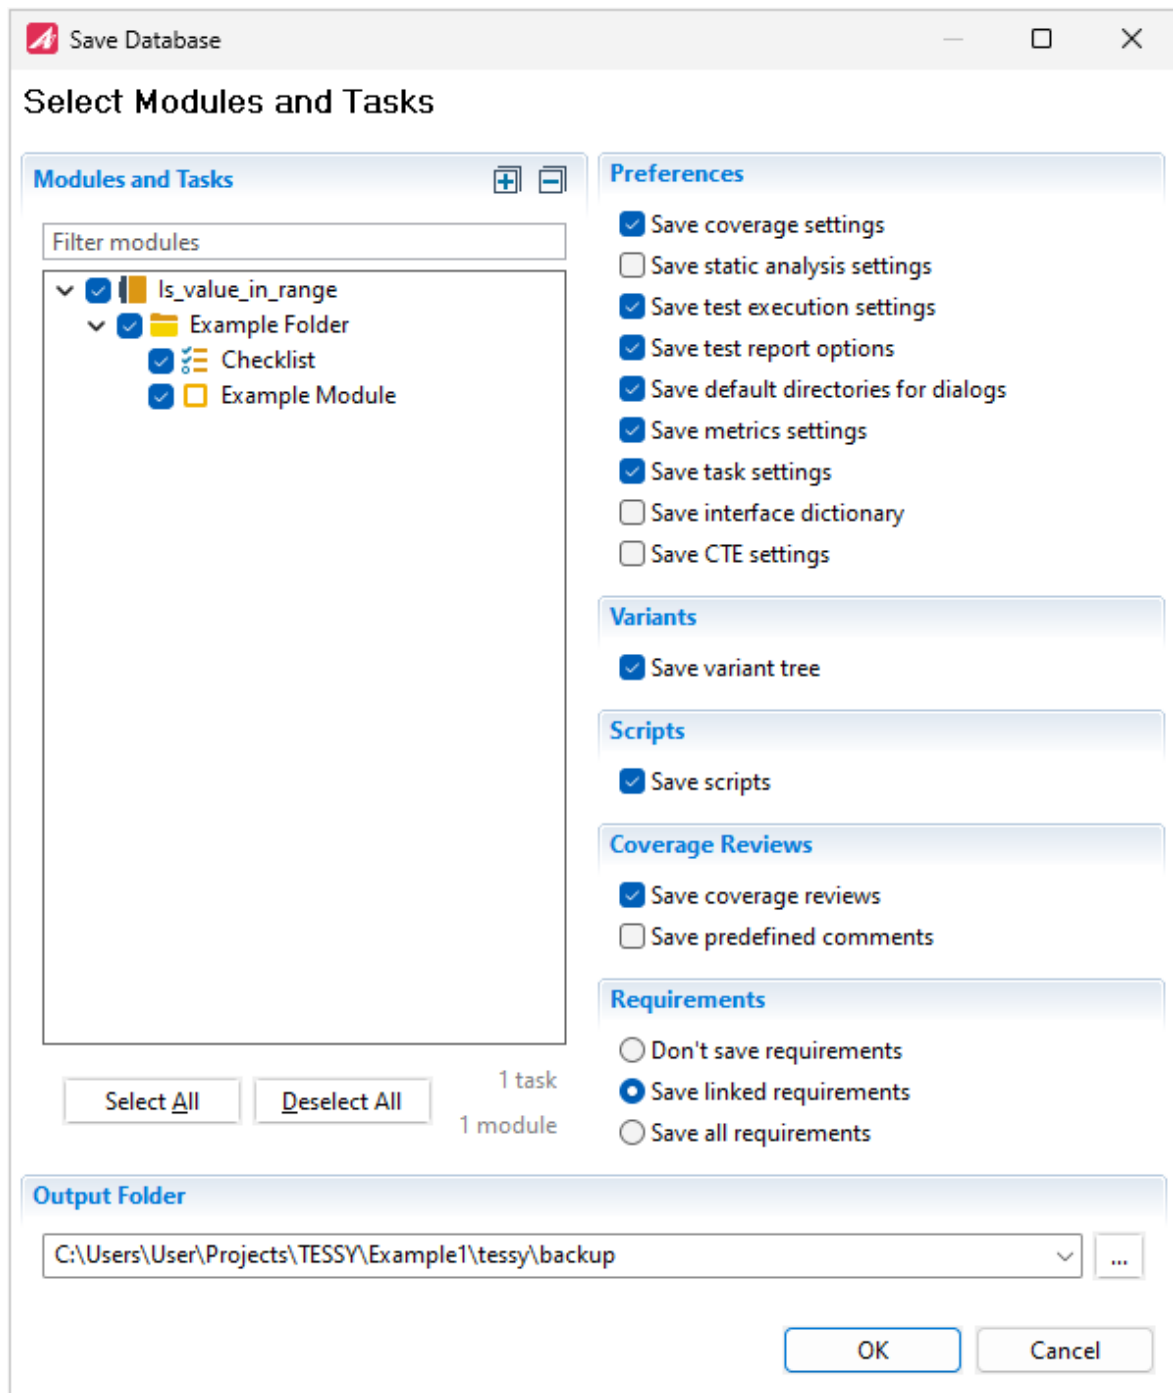
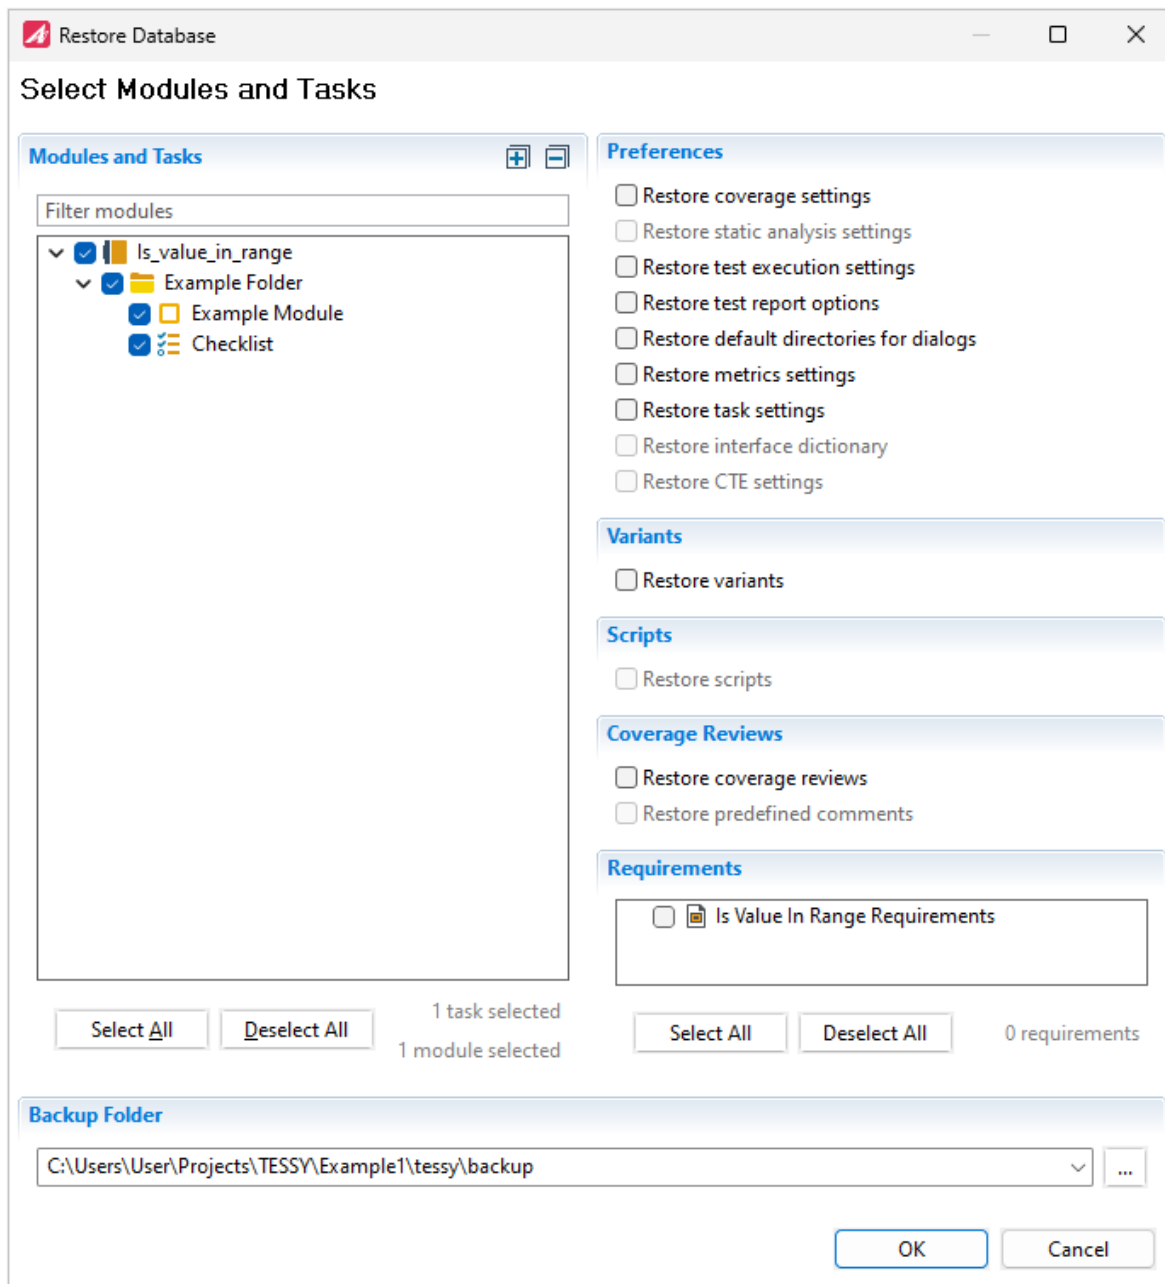

Figure 6.307: Save Database dialog
Figure 6.309: Restore Database dialog
- If you want to save variants and scripts, please remember to select it (see figure 6.307).
By choosing which preferences to save in the Save/Restore dialog (see figure 6.307 and figure 6.309) you can define the workspace preferences which are supposed to be overwritten whenever restoring the project.